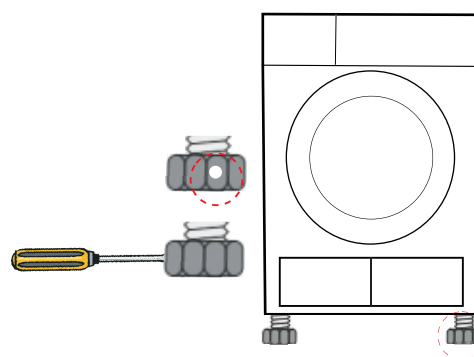

Fig 1
- If the floor is obviously uneven, it needs to be adjusted. It vibrates the machine, causing machine to move from its position. Using tools to adjust the height of four machine legs to adjust the levelness of this dryer.(Fig1)